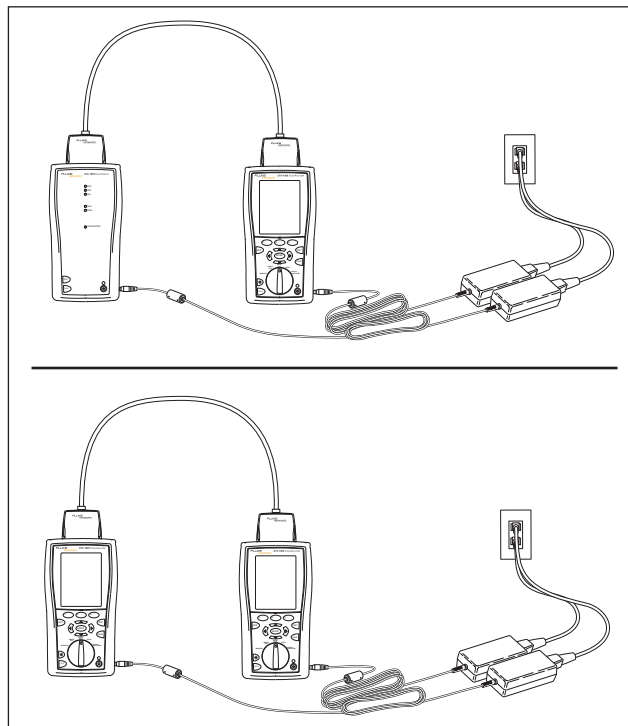

Figure 9-2. Updating the Software with an Updated Tester
- 1 Connect an updated tester or smart remote to a tester or smart remote that needs updating, as shown in Figure 9-2.